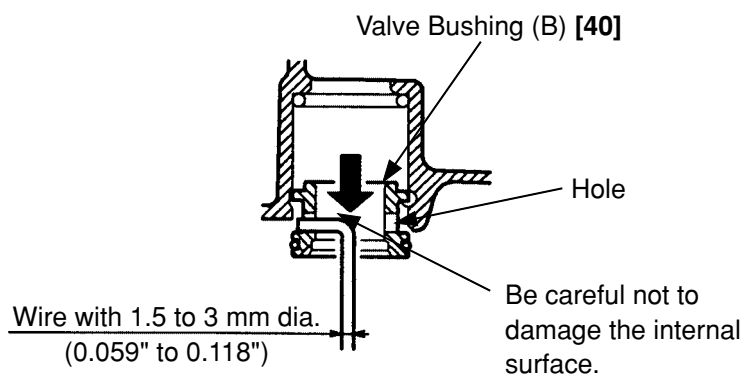

Fig. 25
- Be careful not to damage Valve Piston (B) [44], Valve Bushings (A) [49] and (B) [40], etc.
- Do not pull out the end of Plunger (A) [47] with pliers.
- 3) To take out Valve Bushing (B) [40], put a 1.5 to 3 mm (0.059" to 0.118") dia. wire with its end hooked into the hole in the bushing and pull it out while being careful not to damage the internal surface of Valve Bushing (B) [40], as shown in Fig. 25.